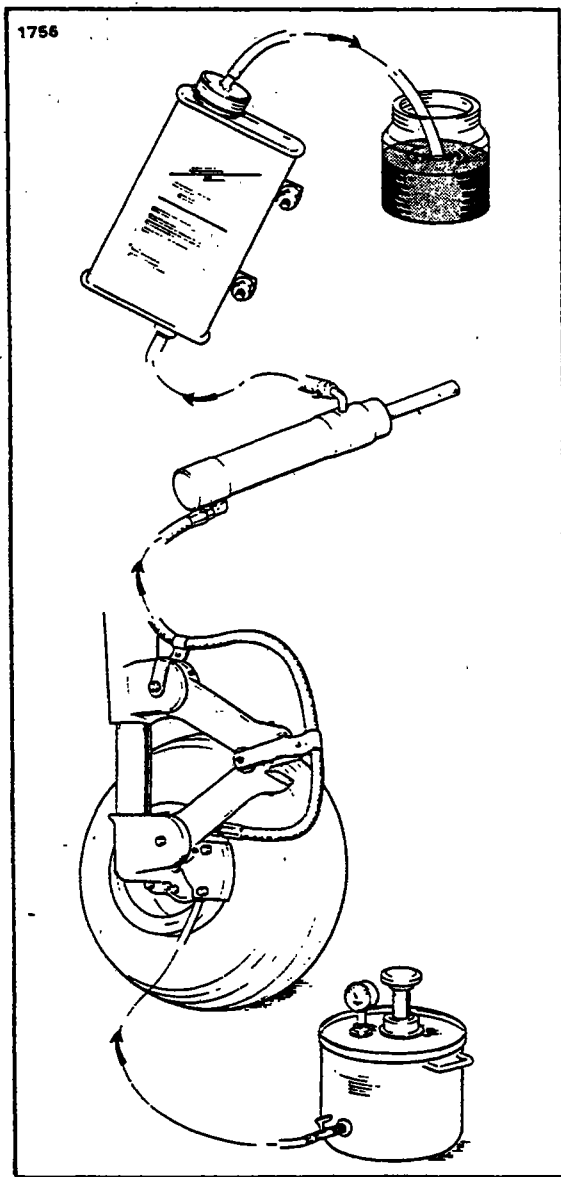

Figure 7-23. Bleeding Brake (Pressure)
**7-54. BRAKE BLEEDING PROCEDURE (Pressure). (Refer to Figure 7-23.)**